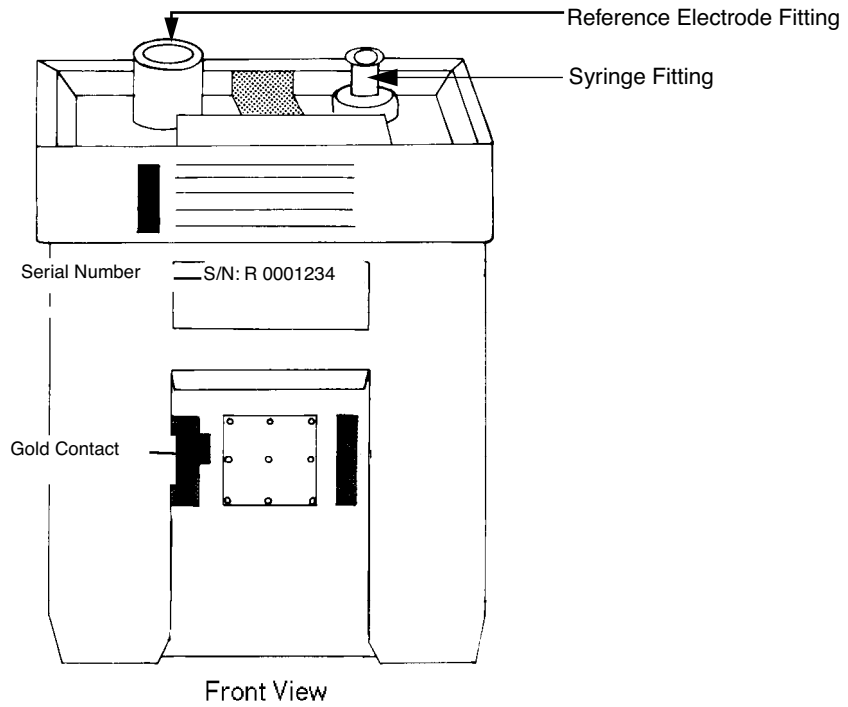

Figure 3-2: Front View of Reader
- 1) Check that you are holding the Reader with the serial number facing you (Figure 3-2).